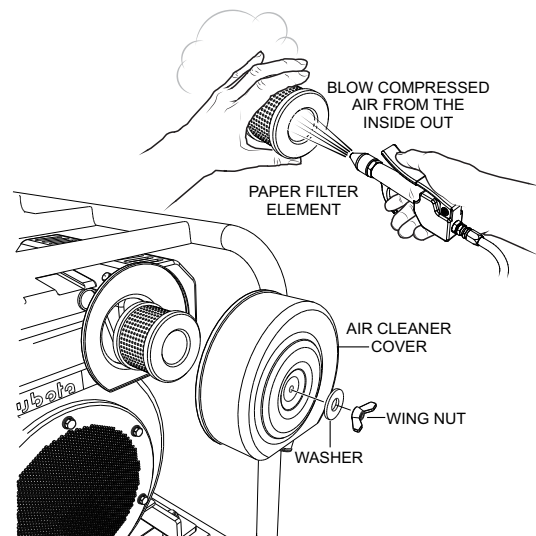

Figure 12. Engine Air Cleaner
1. Loosen the wing nut and detach the cover of the air cleaner shown in Figure 12.
2. Tap the element (Figure 12) several times on a hard surface to remove dirt, or blow compressed air [not exceeding 30 psi (207 kPa, 2.1 kgf/cm²)] through the element.